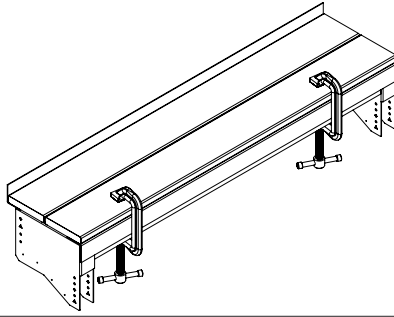

Fig. 84
6. Extend pre-drilled holes through cut U-Rim Joist. As shown in Fig. 84.